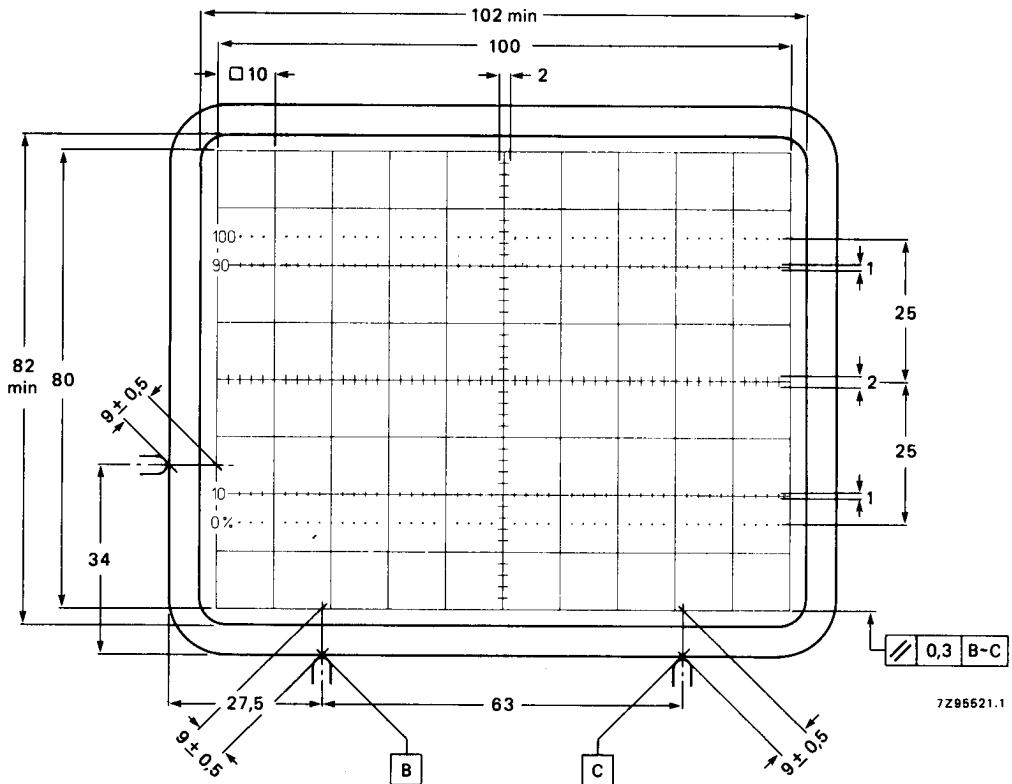

Fig. 4 Front view of tube with internal graticule, type 123. The faceplate reference points are used for aligning the graticule with the faceplate.
| Internal graticule | type 123; see Fig. 4 |
The tube can be mounted in any position. It must not be supported by the socket and not by the base region alone. The reference points on adjoining edges of the faceplate (see Fig. 4) enable the tube to be mounted accurately in the front panel, thus providing optimum alignment of the internal graticule.
4. Reference points on faceplate for graticule alignment (see Fig. 4).
1. As the frit seal is visible through the faceplate, and not necessarily aligned with the internal graticule, application of an external passe-partout with open area of max. 102 mm x 82 mm is recommended. The internal graticule is aligned with the faceplate by using the faceplate reference points (see Fig. 4).